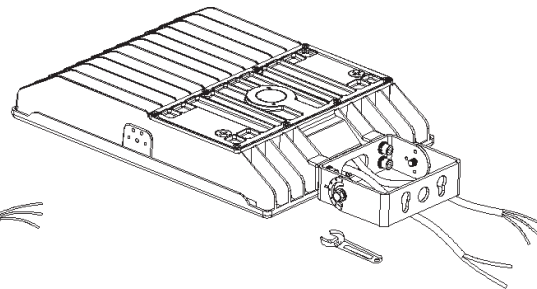

figure 7
2. Attach trunnion to head. (see fig 7)